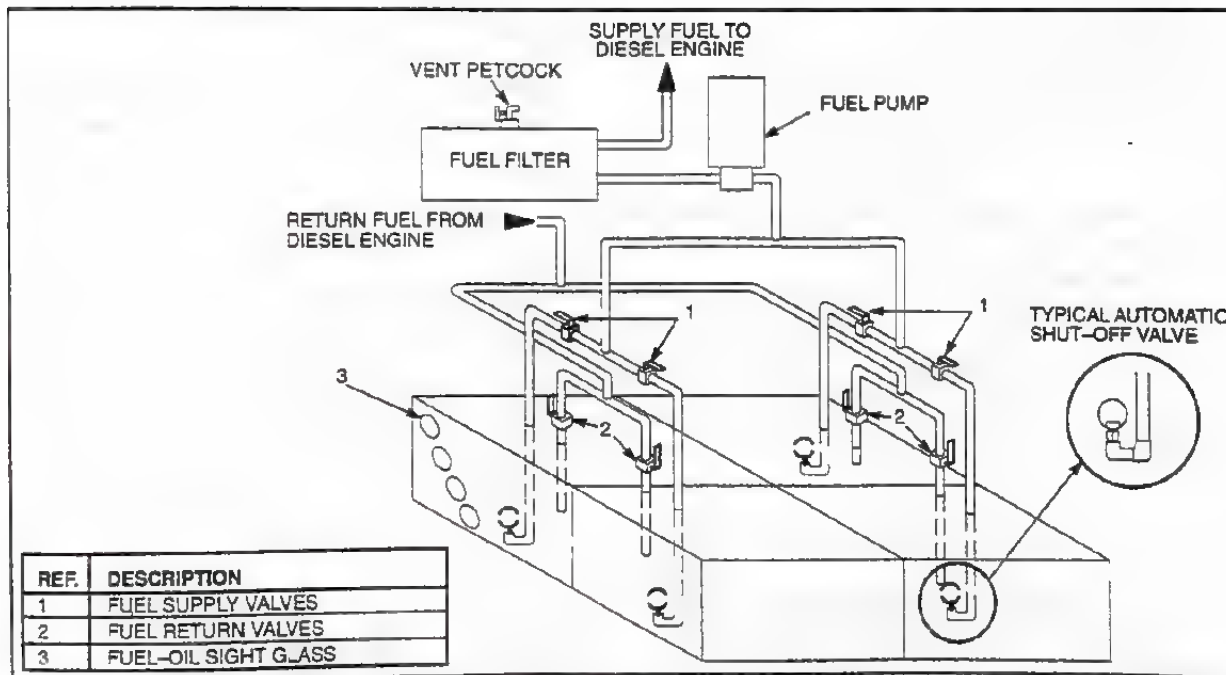

FIG. 79. FUEL TRANSFER SYSTEM. E-42784.
The locomotive fuel tank is divided into four separate compartments. The fuel tank on each side of the locomotive is divided into two compartments (front and rear). Each compartment has a Supply (Item 1, Fig.79) and Return (Item 2, Fig.79) shutoff valve. These valves **must** be open during normal operation. See Fig. 40 for fuel oil piping diagram.
Fuel-Oil Sight Glasses – Mounted in the sides of the fuel tanks (Item 3, Fig.79) to indicate the level of fuel in the tanks. Top glass (per tank) indicates approximately 500 gallons, second glass indicates approximately 315 gallons, third glass approximately 150 gallons and bottom glass approximately 30 gallons.
If one of the compartments is leaking, proceed as follows (Fig. 79):
4. After holding Start Switch in PRIME position for two (2) minutes and solid fuel flow cannot be obtained in sight glass, continue with the following steps. Otherwise, turn the Start Switch to START position and hold until the engine starts.
5. Open Vent Petcock on fuel filter housing (Figs. 79 and 69).